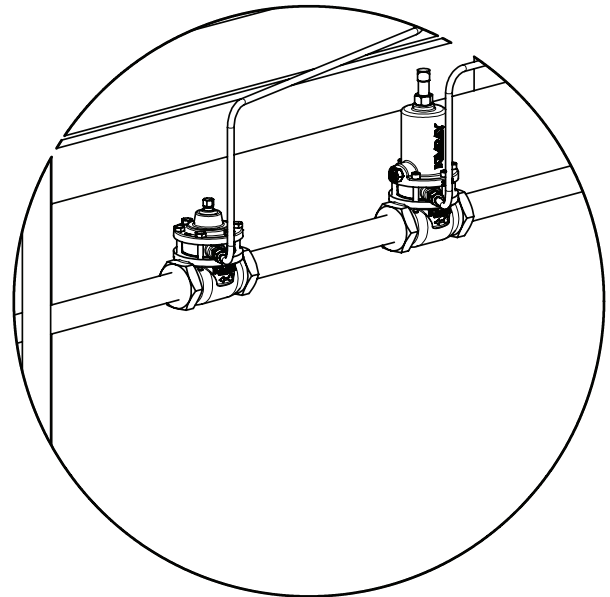

Figure 2
**DA and ADA Pressure Opening Valve** - remove the plastic stopper from the tapped hole in the lip of the housing immediately below the bonnet and install a tubing fitting. The tubing must be installed from your source of instrument gas. (see figure 2)